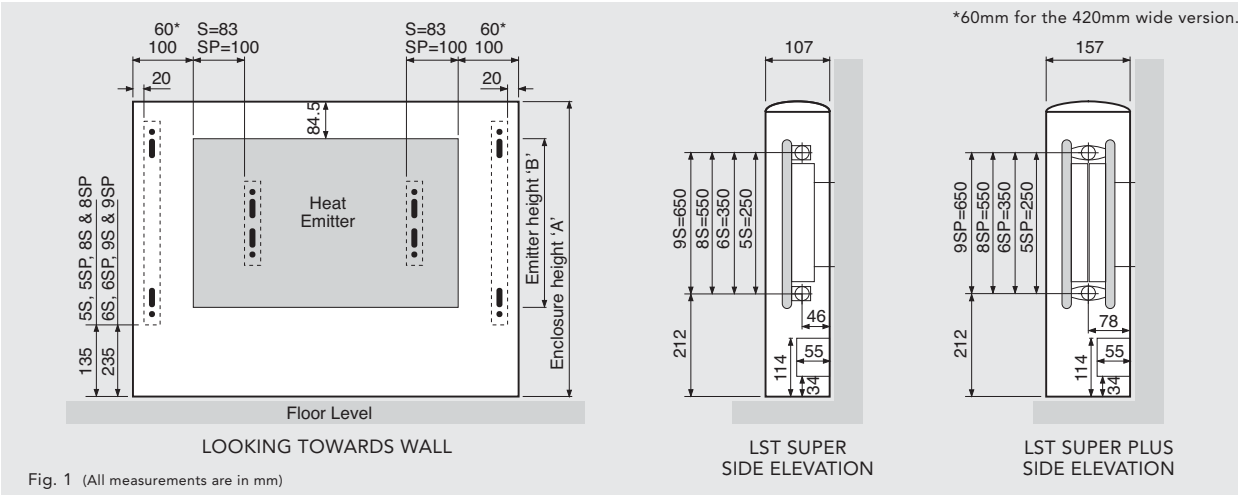

Fig. 1 (All measurements are in mm)
- A pair of templates are supplied with the product to ensure the correct positioning of the wall brackets for the emitter and the enclosure (see fig. 1).
- Carry out the plumbing connections in the usual way. Fig 1 shows the clearances between the heat emitter and the enclosure. Ensure that pipework and valves are within these limits to enable correct fitting of the enclosure.